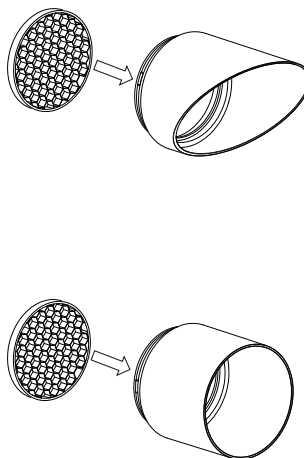
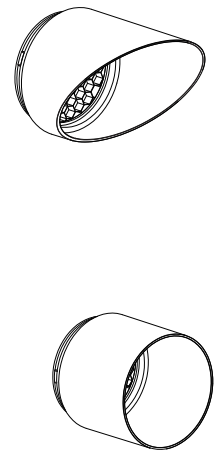

fig. 5
fig. 6
3. Insert the mesh ring, from the bottom of the snout or the wall wash (fig. 5) until it's firmly in place in the holder connecting part of the accessory. (fig. 6)